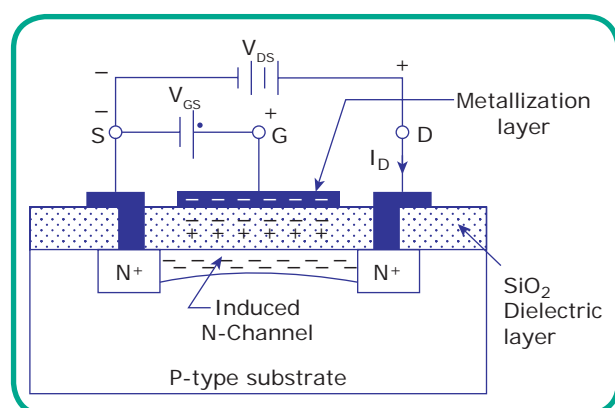

Figure 6.12 Operation of N-Channel E-MOSFET
**Working Principle:** Figure 6.12 shows the normal biasing of n-channel E-MOSFET. It is always operated with positive gate to source voltage ( $V_{GS}$ ). The drain is kept at positive potential ( $V_{DS}$ ) with respect to the source. When  $V_{GS}$  is equal to zero, the  $PN$  junction between the drain and the substrate is reverse biased. Hence, only very small leakage current ( $I_D$ ) flows through the device.